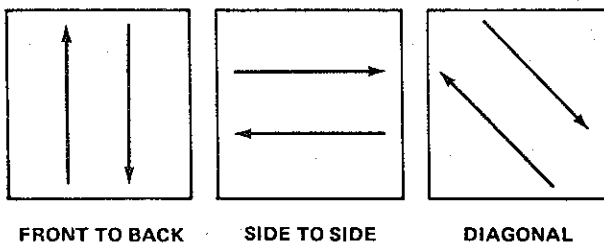

Figure 9
- Change patterns occasionally to eliminate matting, graining and a corrugated appearance. See diagrams (Figure 9).